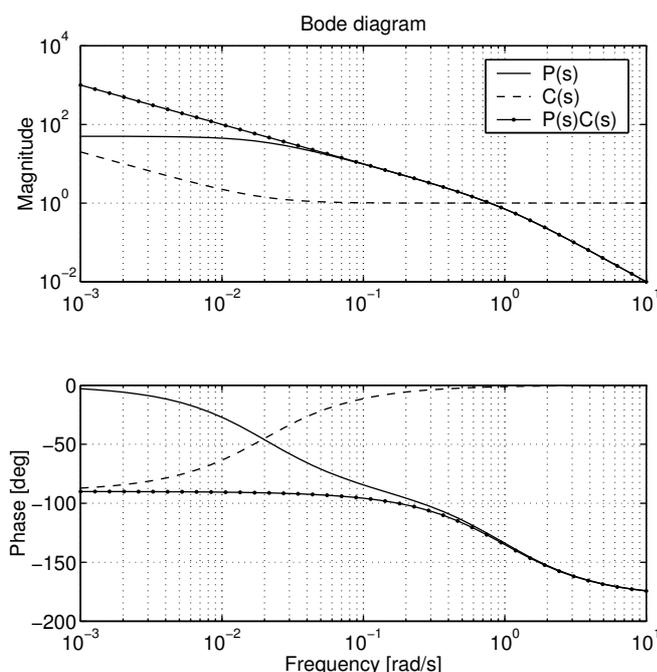

Figure 4.3 The Bode diagrams of $P(s)$, $C(s)$ and the open loop $P(s)C(s)$ when $r = 0.02$.
The Bode diagrams of the plant, the controller, and the open-loop system are shown in Figure 4.3.
- a. The load disturbance d is typically most significant at low frequencies, so we are interested in keeping the magnitude of the transfer function G_{yd} from d to y significantly smaller than 1 in a frequency range $[0, \omega_b]$. What is (approximately) ω_b if you use the given controller? Use the Bode diagram in Figure 4.3.